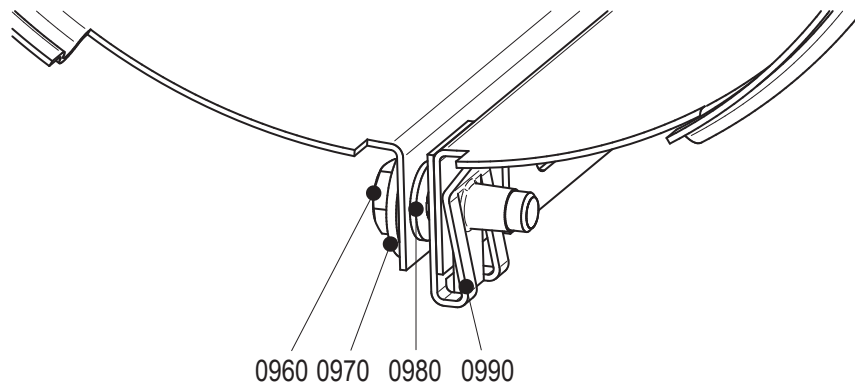

Figure 12: Fitting jacket.
- 1 Loosen bolts (0960). See figure 12.
- 3 Close the jacket and fit bolt (0960). See figure 12.
- 5 Close the jacket and fit bolt (0960). See figure 12.